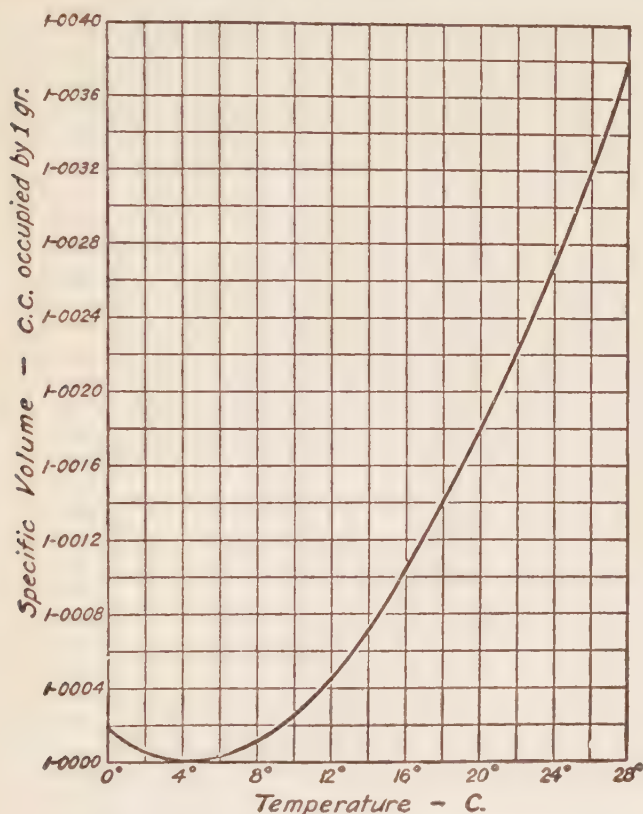

FIG. 7. Change of Volume of Water with Temperature.
a. In Exercise 6 c you determined the **density of water** by means of your burette. Is your result an exact value, or is it only a rough approximation? Refer to the temperature of the water recorded in your notes, and now compare your experimental result with that indicated by the curve* in Fig. 7. Suppose that your error in each reading of the meniscus in the burette might amount to 0.03 c.c., could that account for the whole difference between your value and the accepted one? What other errors might occur in the course of the experiment, and what are their respective magnitudes? Are you sure that your burette is correctly graduated?
in 1 c.c.) of benzene at 25° , multiply the specific gravity, as obtained above, by the density of water at that temperature (0.9971, see Fig. 7).